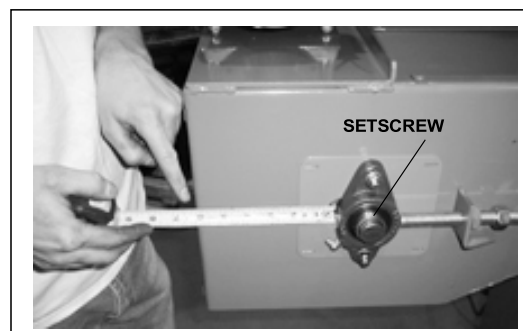

Figure 5. Checking for Headshaft Skew
- Measure the distance between the bearing and the front edge of the sidewall (Figure 5) to verify that the headshaft is not cocked (skewed).